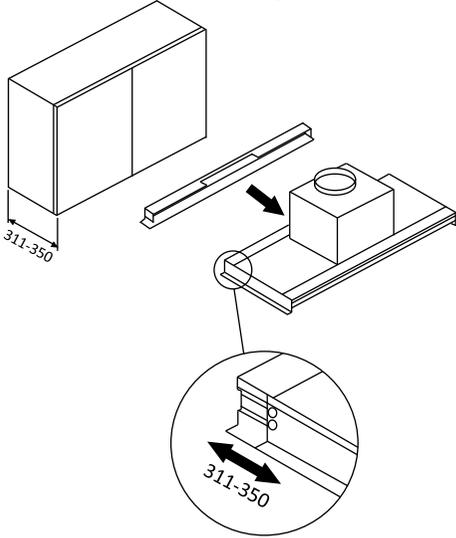

Fig 4
2. If the cupboard depth is between 311-350mm then the extension piece will be needed. Adjust the extension as required (Fig 4).